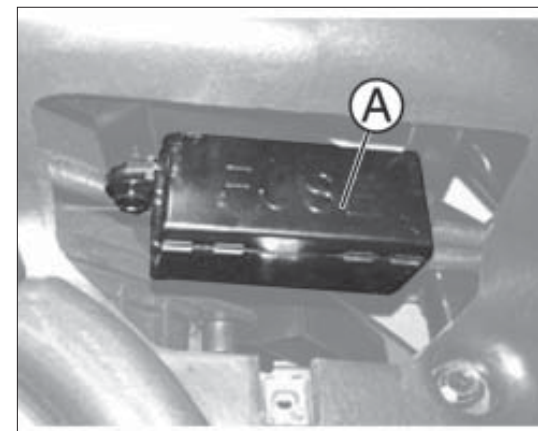

fig. 1
- lift cover A fig. 1 to access the fuses